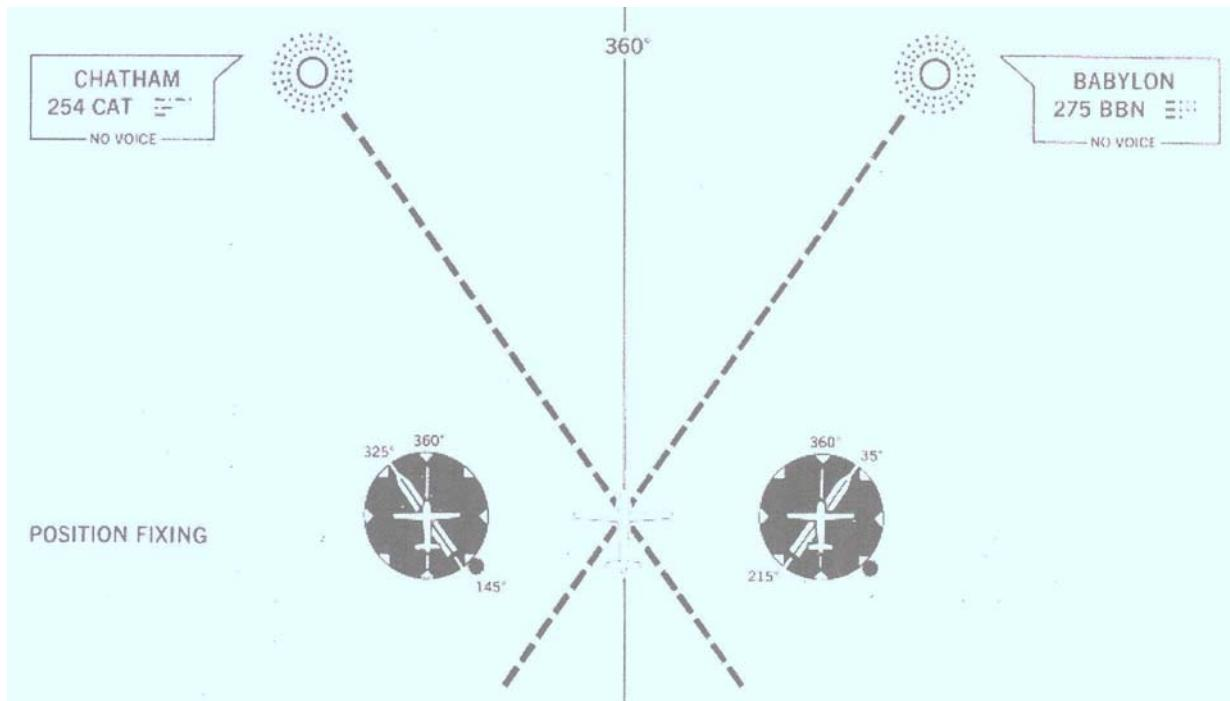

Fig 47 : Dual ADF Fix
4.7.4.3.2 Fig 47 illustrates the RB & TC for each of 2 NDBs. Both happen to have the same RB (35°), & would for all flight along this particular TC (360°). It is unlikely that the 2 NDBs would be located so conveniently as the mirror image. With a mirror image arrangement, the extensive preflight effort mentioned above is not justified. The 2 RBs should always be identical, making the course in Fig 47 easy to maintain. It is most convenient to turn the ADF knob to a RB of zero regardless of the TC to the destination. With the ADF set as suggested, the mirror image RBs will be equal. That is easier than to have unique values that are difficult to reconcile. A more likely flight would require a few preflight RBs listed on the chart; or a log. If the Aero Navigator finds, as he progresses on this flight, that the 2 RBs are unequal, he must determine which side of the track he is on, & then correct by analyzing the new angle to destination W/V error to reach off-course point. Techniques discussed in DR & other courses suggest that this is an easy analysis to perform.